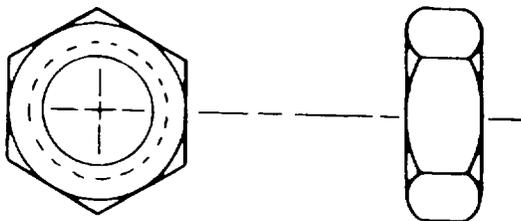

Figure 2-24. Plain Checknut
(3) Engine. Engine castle nuts, AN121551 through AN121575, are identified by E11 stamped into the metal Do not substitute any other type nut.
c. Checknuts. Use AN316 aircraft plain check-nuts, as shown in figure 2-24, as a locking device for plain nuts, setscrews, threaded rod ends, and other similar Items